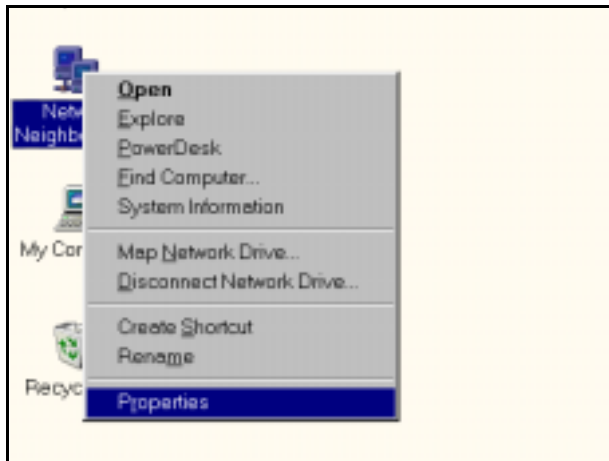
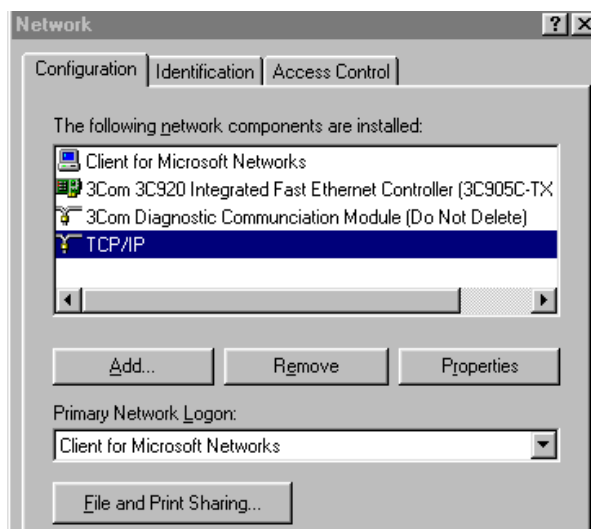

Figure 15-1 Windows Main Menu
Figure 15-2 Network Window
2. Right-click on *Network Neighborhood* icon and click on *Properties* (see Figure 15-1) to open Network Window (see Figure 15-2).
4. Select *Properties* (see Figure 15-2).